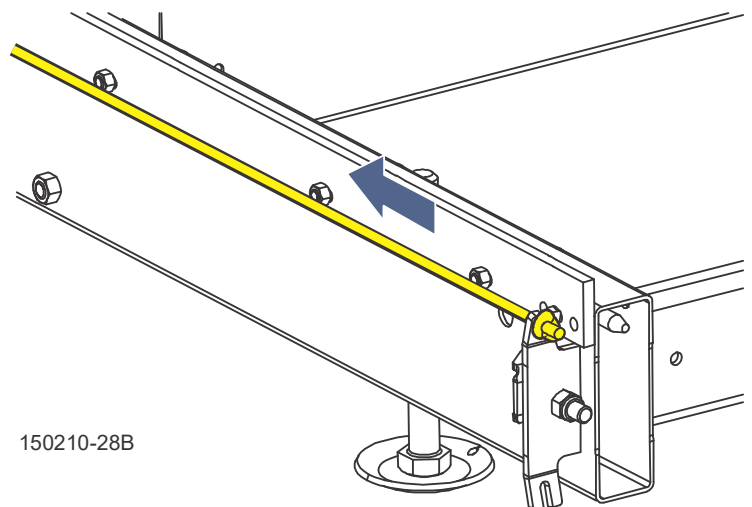

FIG. 3-10
4. Route the rope between the saw head carriage and bed frame tube. See FIG. 3-10.